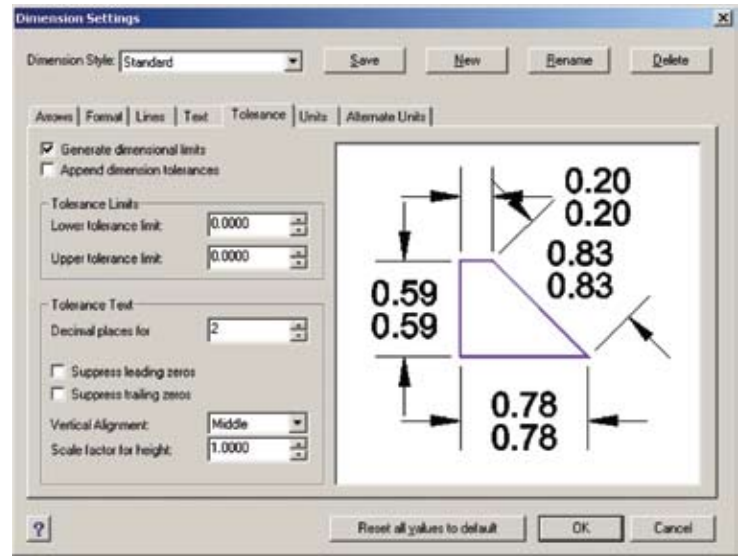

Figure 7.3
- Your dialog screen should look like the one in Figure 7.3.